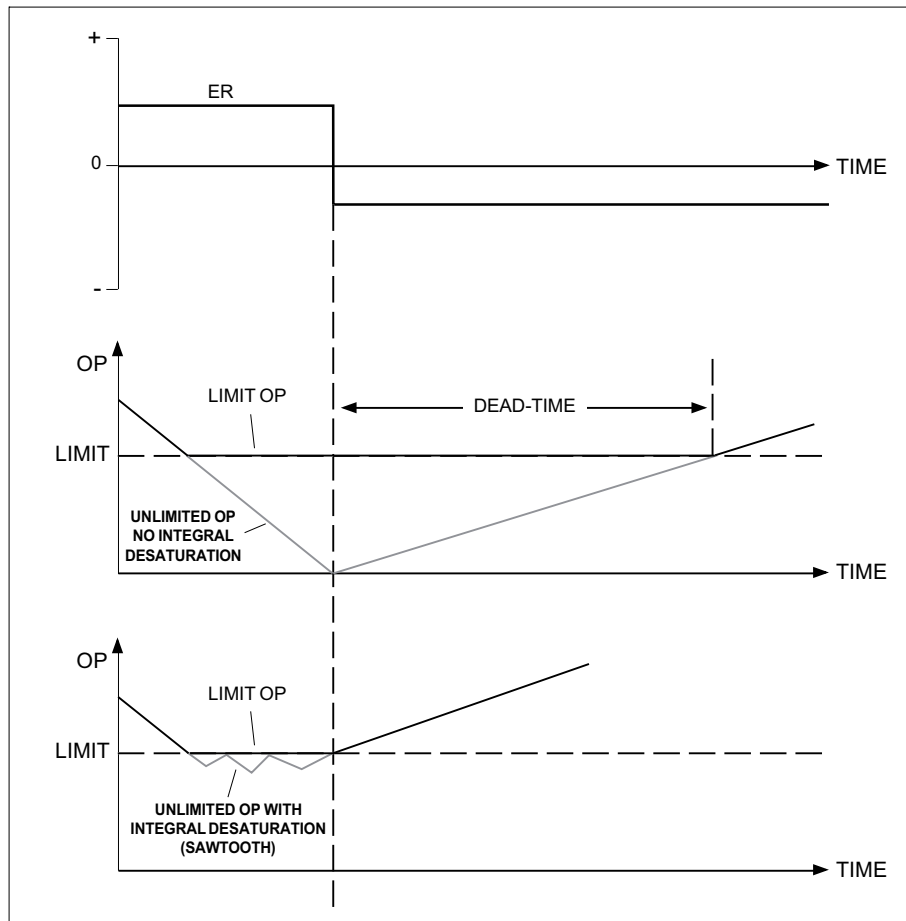

Figure 120 Effect of integral desaturation (integral action)
With a persistent error (ER), the PID algorithm's integral term ($TS/TI \cdot \sum ER_i$) can accumulate a large value ('integral term wind-up'), which begins to reduce only after ER has reversed. When large enough the integral accumulator holds the controller output against an output limit, and even whilst reducing it continues to do so for a further *dead-time* period until it has emptied sufficiently. The upper part of *Figure 120* shows this effect schematically.